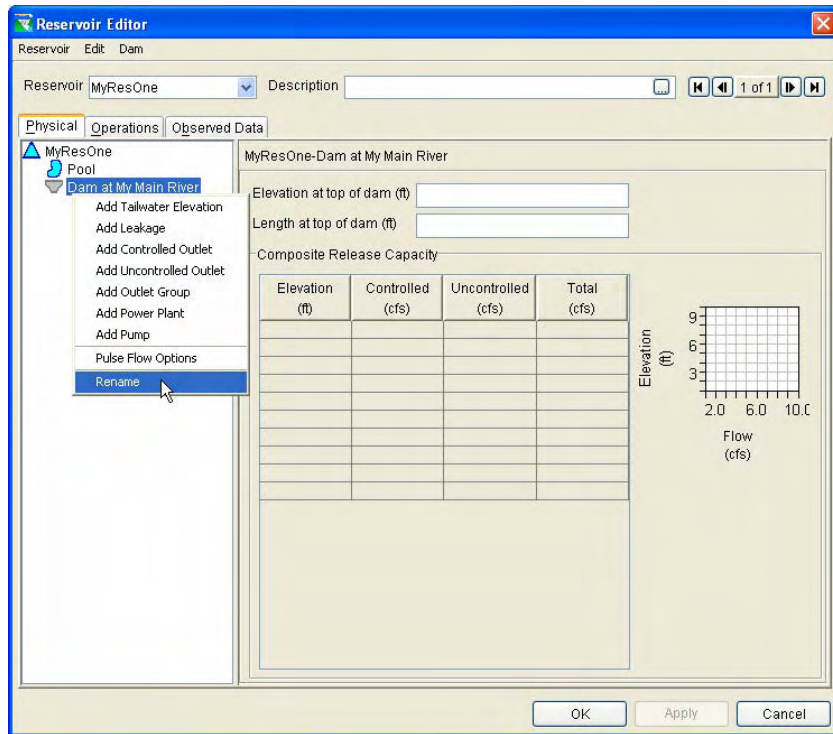

Figure 20 – Reservoir Editor, Rename Dam
- Enter Dam Properties.** Click on **Dam** in the reservoir tree. The data area to the right of the reservoir tree will change to allow you to enter the data needed to define the dam [Sections 10.5 and 10.6]. Before proceeding, take a look at the name of the dam. The name is probably something like “Dam at My Main River.” This is the default name the program gives to the dam. It identifies the dam based on the name of the underlying stream upon which the dam was placed. This enables the program to uniquely identify more than one dam within a reservoir. It is a rare case when a reservoir has more than one dam, so feel free to rename the dam by right-clicking on the dam name and selecting **Rename** (as shown in Figure 20). One suggestion is to name it *Dam* by removing the stream name. Another possibility is to name the dam by its actual name (many reservoirs have a name for the pool and a different name for the dam; ResSim provides the ability to name each part individually).
- Add Outlets.** Physical **Outlets** can be added to the Dam by right-clicking on the **Dam**. Figure 20 illustrates the dam's shortcut menu. Select **Controlled Outlet** to add a gate or other control structure to the dam [Sections 10.8 and 10.16]. You can rename the outlet by right-clicking on the outlet and selecting **Rename**.